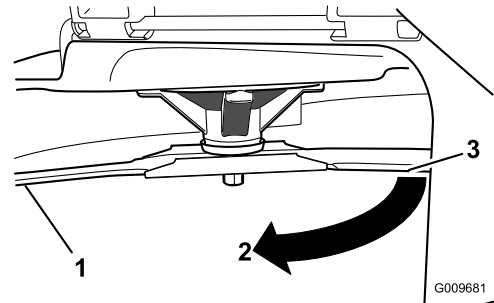

Figure 43
3. Measured distance between blade and the surface (A)
4. Rotate the same blade 180 degrees so that the opposing cutting edge is now in the same position (Figure 43).